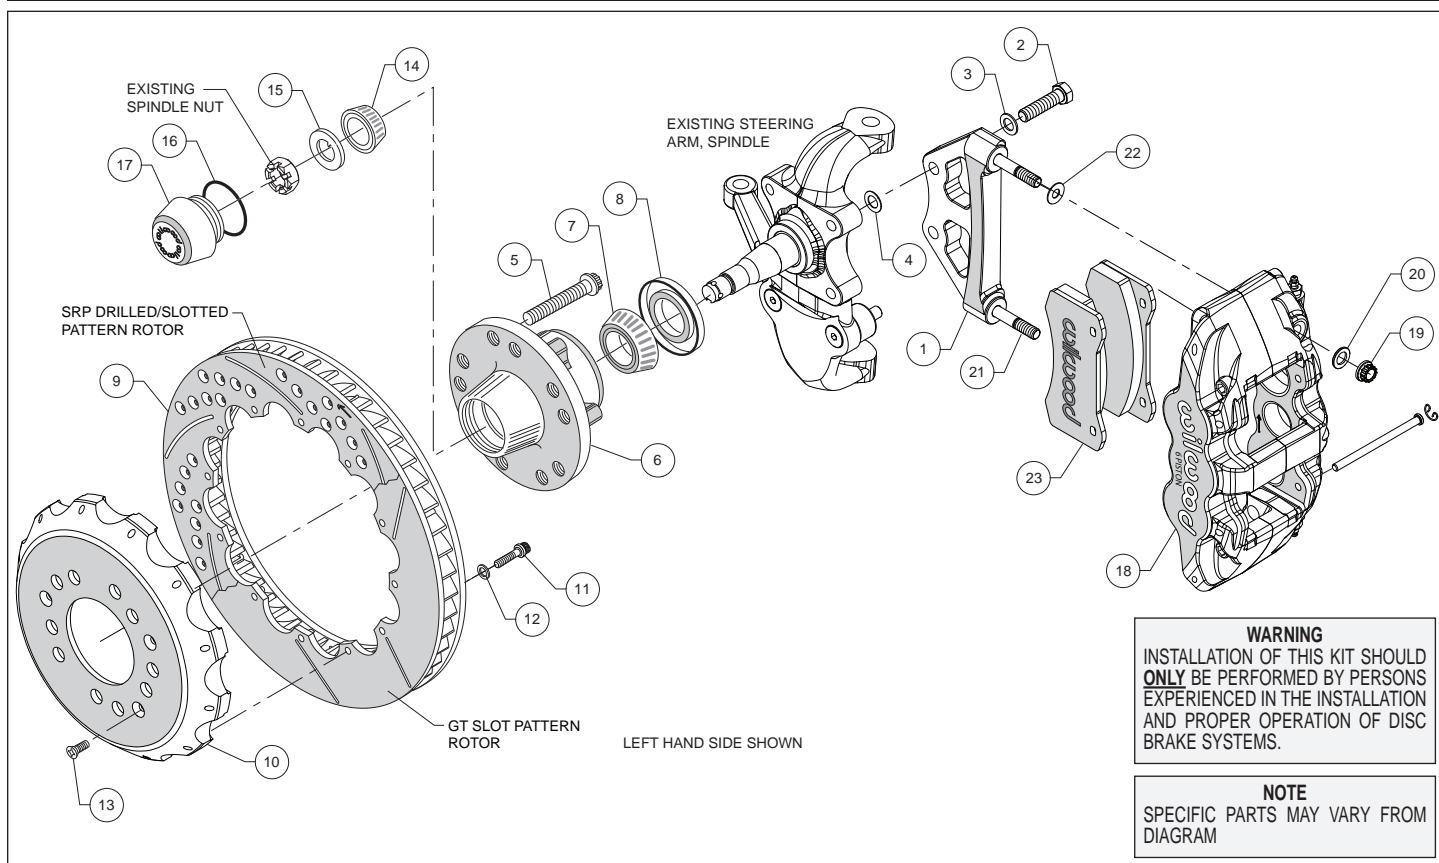
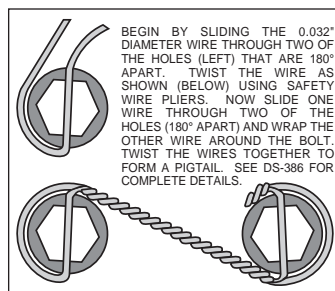

Figure 1. Typical Installation Configuration
Figure 3. Safety Wire Diagram
Assembly Instructions (numbers in parenthesis refer to the parts list on the preceding page, and Figure 1):
- The caliper mount bracket (1) should initially be installed with clean, dry threads on the mounting bolts. Orient the bracket as shown in Figure 1, and install using bolts (2) and washers (3). Initially place one .032" thick shim (4) on each bolt between the bracket and upright, Figure 1 and Photo 1. Temporarily tighten the mounting bolts. **NOTE:** *The bracket must fit squarely against the mount bosses on the upright.* Inspect for interference from casting irregularities, machining ridges, burrs, etc. Later, after the caliper alignment has been checked, the mount bolts will be secured using red *Loctite*® 271.
- Install the grease seal (8) by pressing into the backside of the hub (6), flush with the end of the hub, Photo 3.
- Orient the rotor (9) and the hat (10) as shown in Figure 1 and Photo 4. Attach rotor to hat using bolts (11) and washers (12). Using an alternating sequence, apply red *Loctite*® 271 to the threads and torque bolts to 155 **in-lb**. For an added measure of security, the bolts may be safety wired using standard 0.032 inch diameter stainless steel safety wire as shown in Figure 3. Refer to Wilwood's data sheet DS-386 (available at www.wilwood.com/Pdf/DataSheets/ds386.pdf) for complete safety wire installation instructions.
- NOTE:** This kit contains distinct right and left hand calipers that must be mounted in a specific direction, as described below. Lubricate the caliper mounting studs (21) with lightweight oil. Initially place one .035" thick shim (22) on each stud between the caliper and the bracket, as shown in Figure 1 and Photo 7. Mount the caliper (18) onto the bracket (1) using lock nuts (19) and washers (20), Figure 1. Ensure that the caliper is mounted so the largest pistons are at the rotor exit end of the caliper, in relation to the direction of rotor rotation. Temporarily tighten the lock nuts and view the rotor through the top opening of the caliper. The rotor should be centered in the caliper, Photo 8. If not, adjust by adding or subtracting shims (4) between the bracket and the upright. Always use the same amount of shims on each of the two mounting bolts. Once the caliper alignment is correct, remove the bracket mounting bolts (2) one at a time, apply red *Loctite*® 271 to the threads, and torque to 90 ft-lb.
- Remove the caliper (18), then remove the two pad retaining pins by carefully popping out the pin retaining clips and sliding out the pins. Insert the brake pads (23) into the caliper from the bottom, Figure 1 and Photo 9. With the friction material facing the rotor, secure the brake pads in place with the pad retaining pins and clips, Photo 10. Reinstall the caliper onto the caliper mounting bracket and temporarily tighten the lock nuts (19). Check that the top of the brake pad is flush with the outside diameter of the rotor, Photo 11. If not, adjust by adding or subtracting shims (22) between the caliper and the bracket. After the caliper pad height is set, torque the caliper lock nuts (19) to 47 ft-lb.